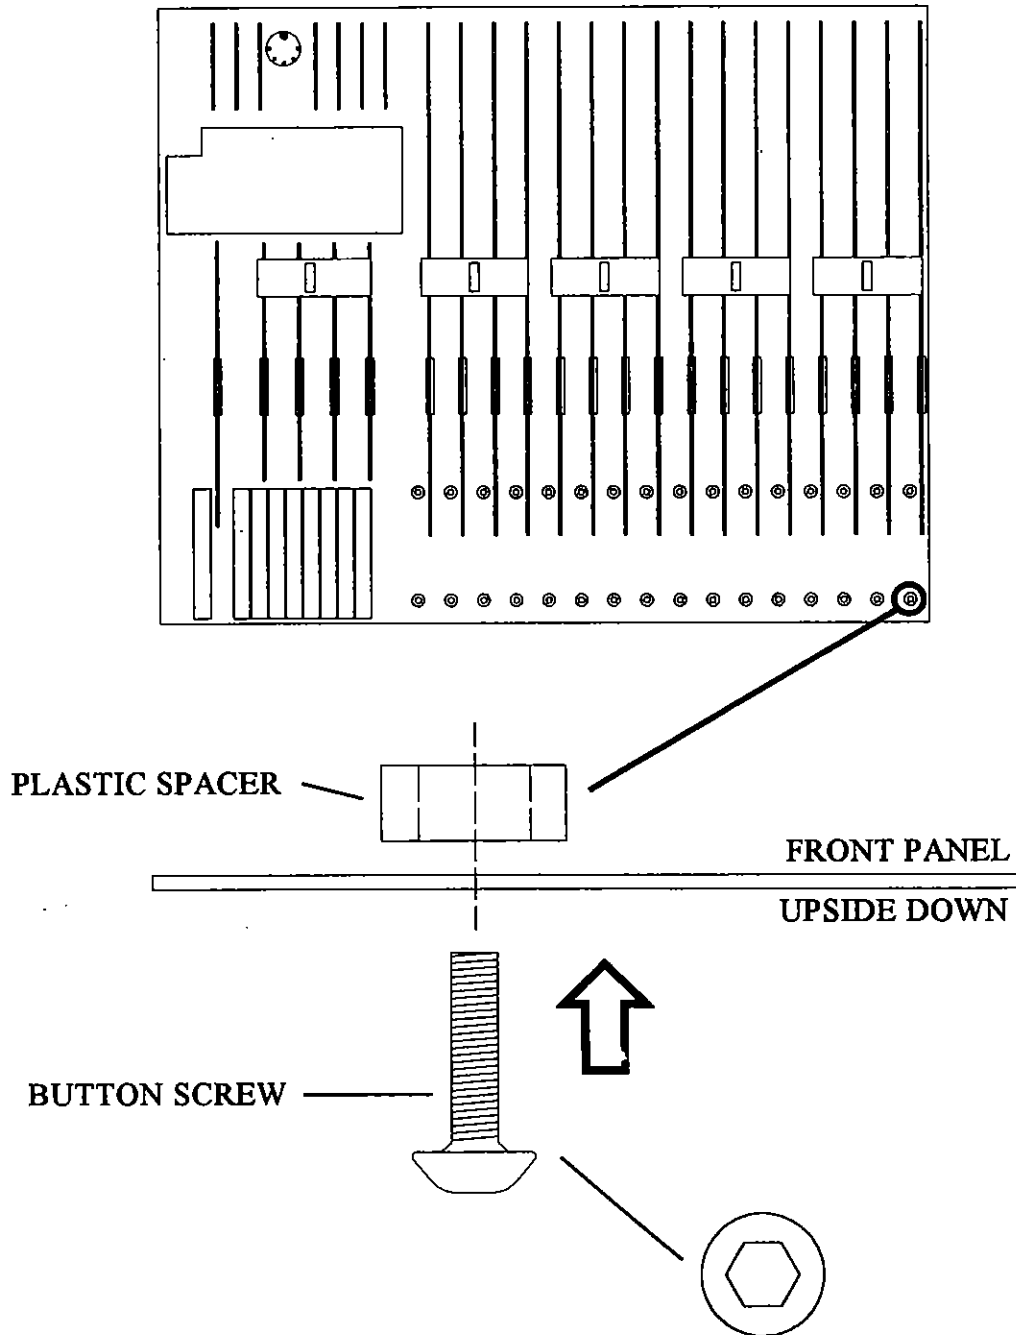

Fig. 7.
1. Fit the black plastic spacers supplied to the front panel using the "button" type fader mounting screws supplied. *see Fig. 7*. The plastic spacers will prevent the screws from falling out. Do this for every Input Channel fader.